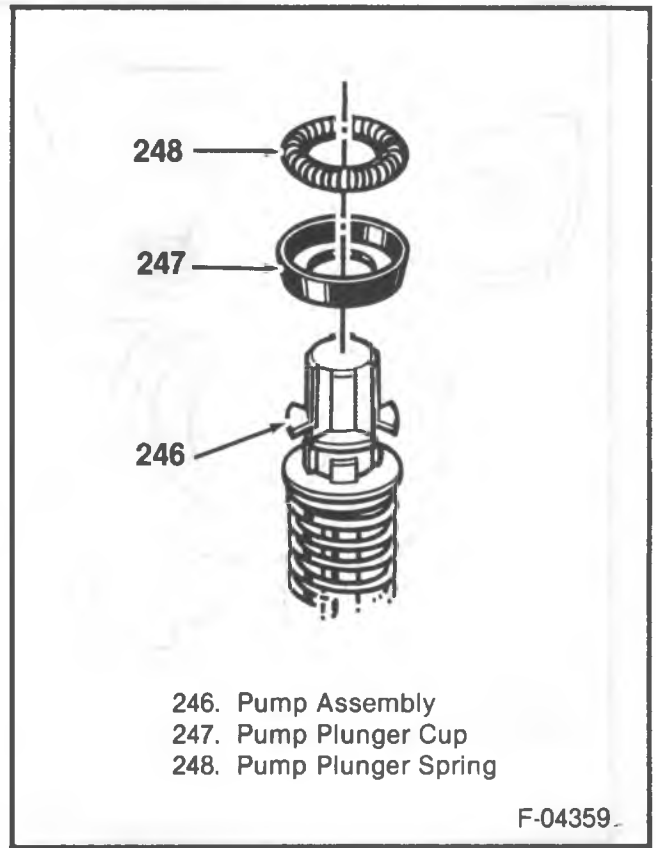
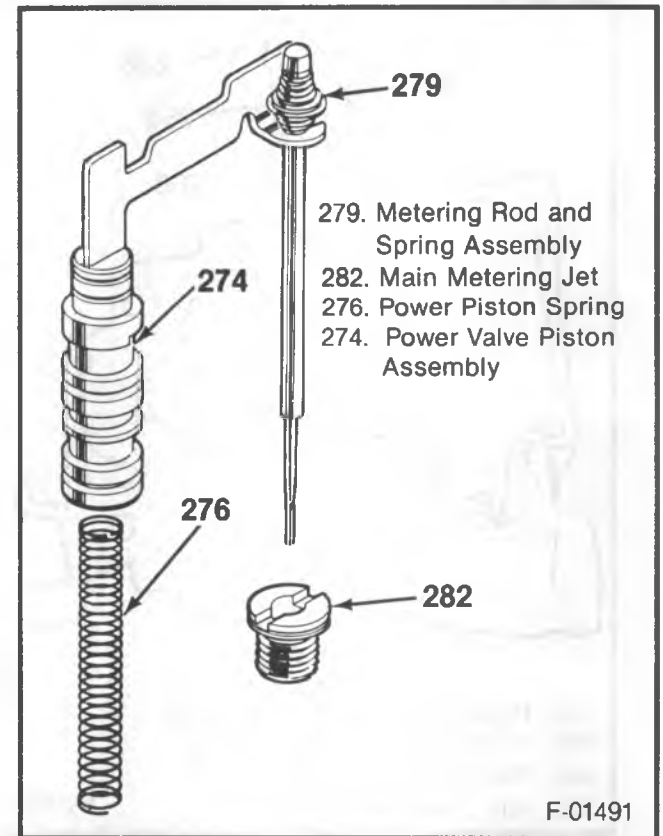

Figure 21 – Pump Plunger Cup and Spring
Figure 22 – Power Piston, Metering Rod and Jet
- B. Remove pump and power rod lever (310) from end of throttle shaft.
- C. Press down on power valve piston assembly (274), and disconnect power rod link (314) from power piston rod (266).
- D. Press down on pump rod (240), and disconnect pump link (317) from slot in rod.
3. Pump rod (240) and pump assembly (246).
-  Disassemble (Figure 21)
- Pump plunger spring (248) and cup (247) from pump assembly (246).
4. Pump rod seal (242) from boss on float bowl.
5. Pump return spring (252) from pump well.
6. Power valve piston assembly (274), metering rod and spring assembly (279), and power piston rod (266).
-  Disassemble (Figure 22)
- Metering rod and spring assembly (279) from metering rod hanger.
7. Power piston spring (276) from float bowl.
Inspect (Figures 21, 24, 7)